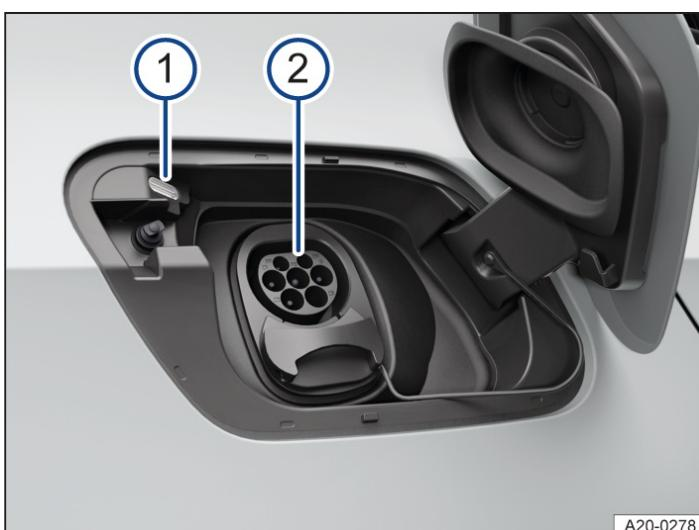

Fig. 1 Behind the charging socket flap at the rear right: charging socket.
- ① Charging process display (*→ Charging process display*).
- ② Charging socket.
Charging station, wall box, mains socket: The vehicle's high-voltage battery can be charged with alternating current (AC) via the top connection in the charging socket → *Fig. 1* ②.